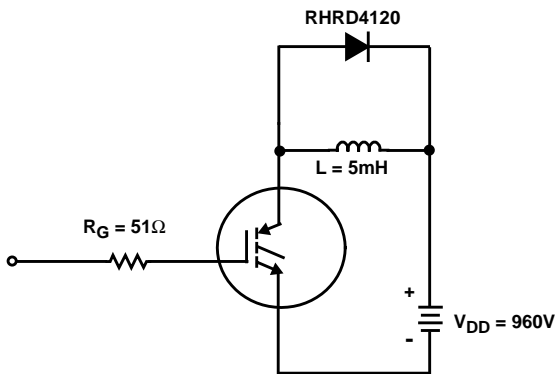

FIGURE 18. INDUCTIVE SWITCHING TEST CIRCUIT
| Current Turn-On Delay Time          | $t_{d(ON)I}$    | IGBT and Diode at $T_J = 25^\circ\text{C}$$I_{CE} = 2.6\text{A}$$V_{CE} = 0.8\text{BV}_{CES}$$V_{GE} = 15\text{V}$$R_G = 51\Omega$$L = 5\text{mH}$Test Circuit (Figure 18)              | -   | 25  | 30   | ns                        |
| Current Turn-On Delay Time          | $t_{d(ON)I}$    | IGBT and Diode at $T_J = 150^\circ\text{C}$ ,$I_{CE} = 2.6\text{A}$ ,$V_{CE} = 0.8\text{BV}_{CES}$ ,$V_{GE} = 15\text{V}$ ,$R_G = 51\Omega$ ,$L = 5\text{mH}$ ,Test Circuit (Figure 18) | -   | 21  | 25   | ns                        |
- Values for two Turn-On loss conditions are shown for the convenience of the circuit designer.  $E_{ON1}$  is the turn-on loss of the IGBT only.  $E_{ON2}$  is the turn-on loss when a typical diode is used in the test circuit and the diode is at the same  $T_J$  as the IGBT. The diode type is specified in Figure 18.